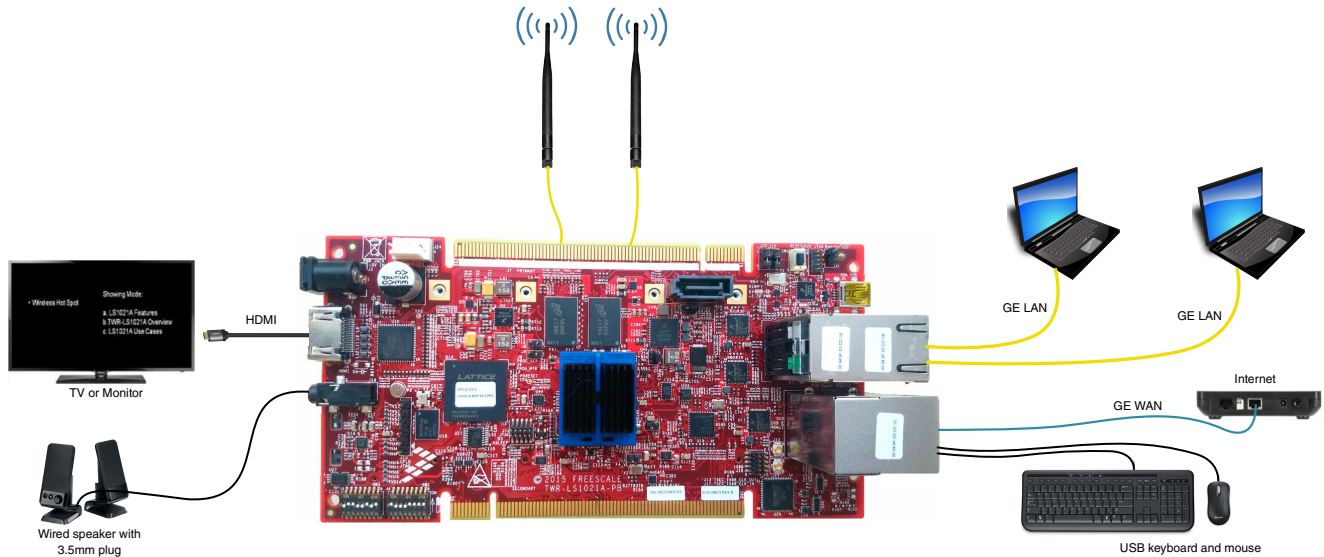

Figure 4. Hardware configuration using HDMI
- If you want to use a HDMI monitor/TV, connect it using a HDMI cable. For an illustration of the same, see Figure 4 below.